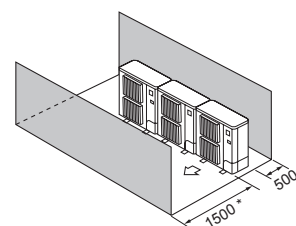

Fig. 2-16
- (4) Obstacles at front and rear only (Fig. 2-16)